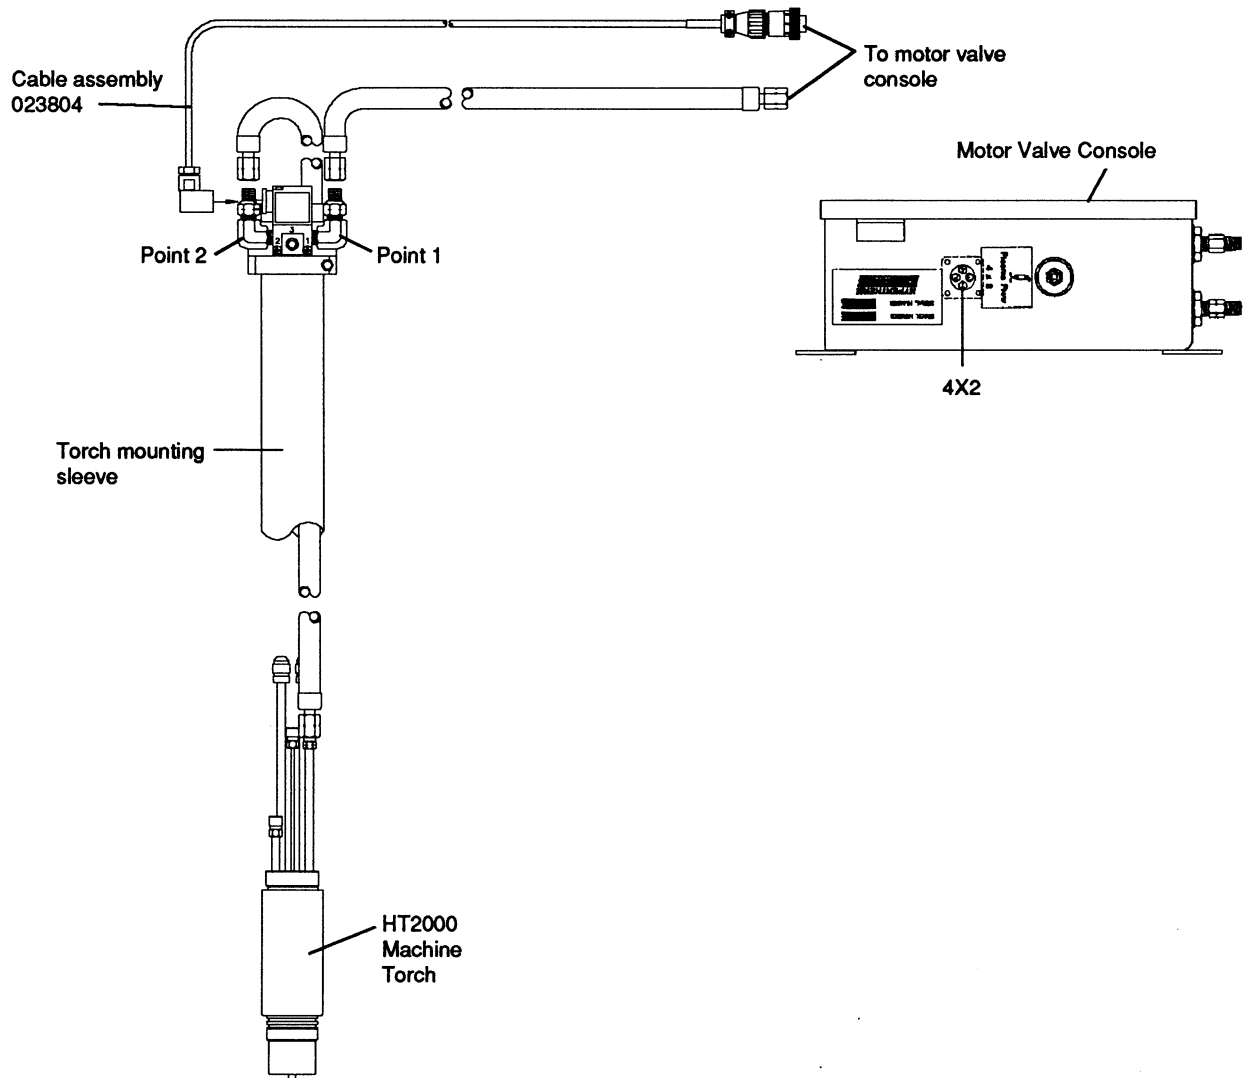

Figure 5 - Hose and Cable Connection Points for Off-Valve Assembly and Motor Valve Console
2. Attach two hoses as shown in Figure 5. Note that the hose from inside the torch attaches to point 2 and the hose from the motor valve console attaches to point 1. Use 7/16" wrenches on the left-hand threaded connectors.